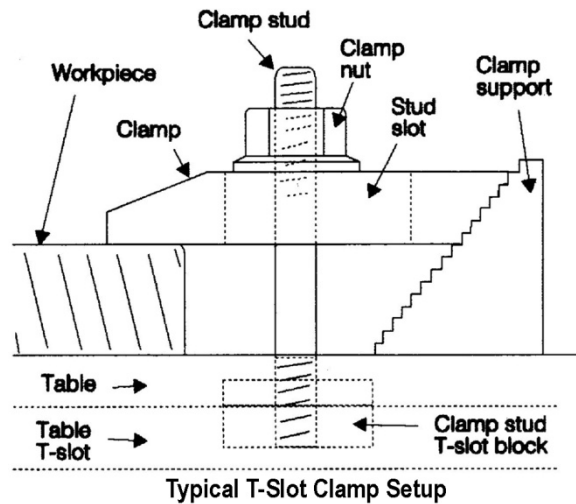

Figure 6
4. Clamp work piece using T-slot clamps, studs, and step blocks as required (Figure 6).